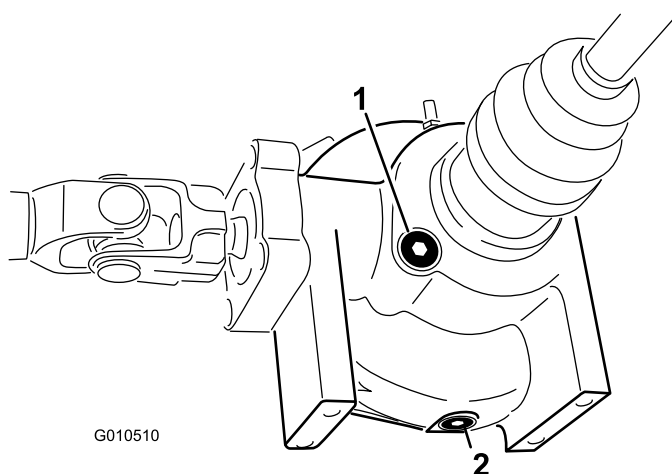

Figure 16
2. Clean the area around the fill/check plug on side of the differential (Figure 16).